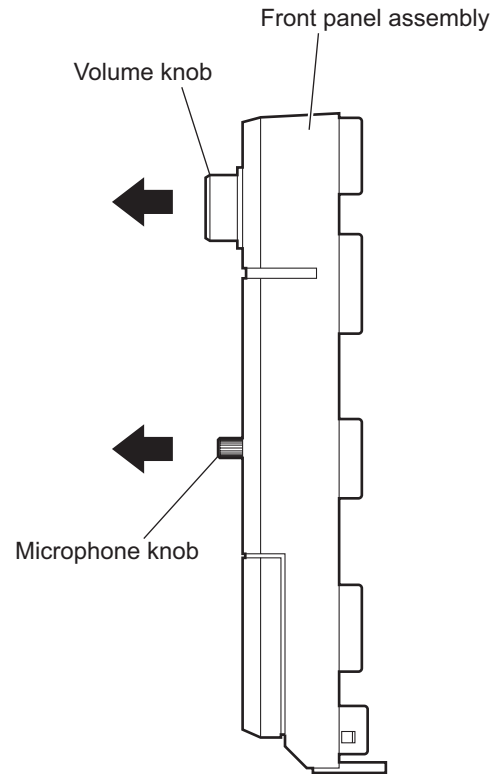

Fig.23
3.1.14 Removing the FL board (See Figs.23 and 24)
- (1) From the front side of the front panel assembly, pull the volume knob out of the front panel assembly. (See Fig.23.)
(See Figs.23 to 25)
- (1) From the front side of the front panel assembly, pull the microphone knob out of the front panel assembly. (See Fig.23.)